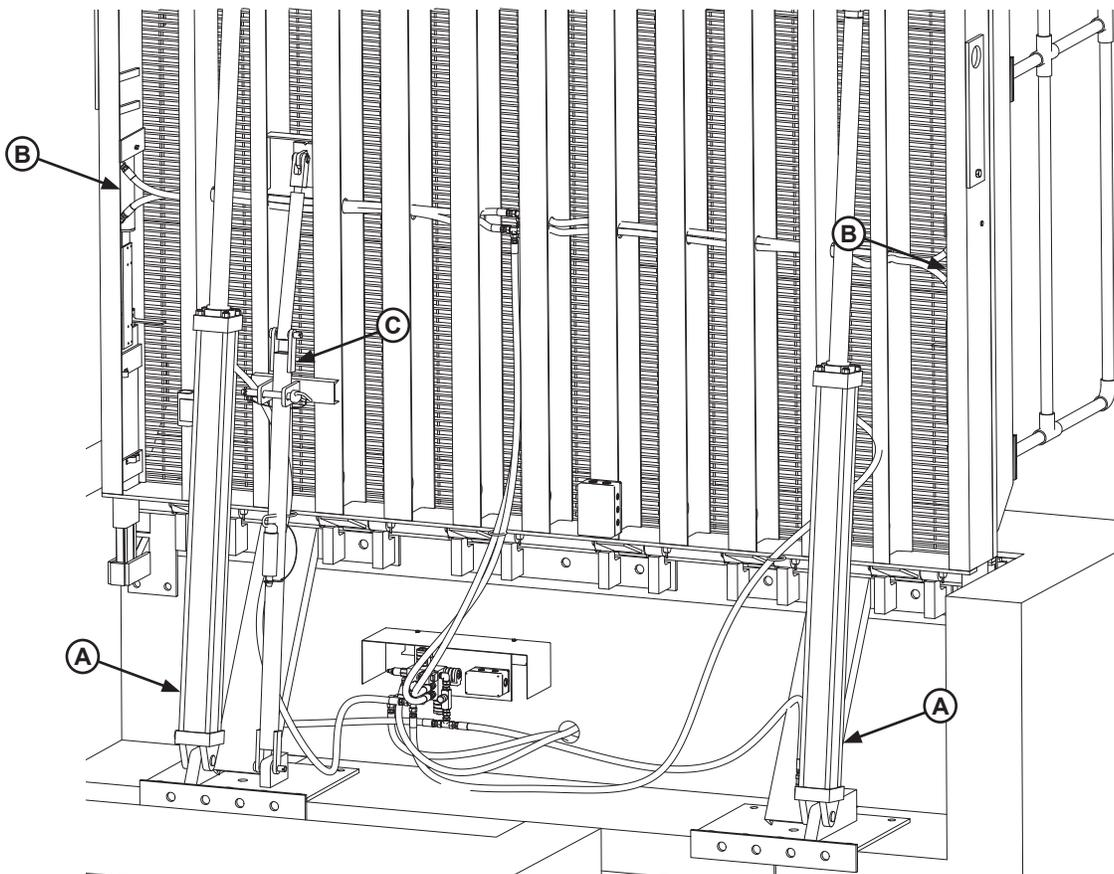

Figure 11
Note: Cylinder installation should be completed with bridge in lowered position. Figure 11 shows bridge raised for visual reference only. Do not attempt to install cylinders with bridge in raised position.
3. Connect the hydraulic hoses to each cylinder fitting, then connect these hoses to the hydraulic valve assembly as shown in Figures 11 and 12.
4. Install folding maintenance prop (C) on underside of bridge as shown in Figure 11 and install lockout pin.